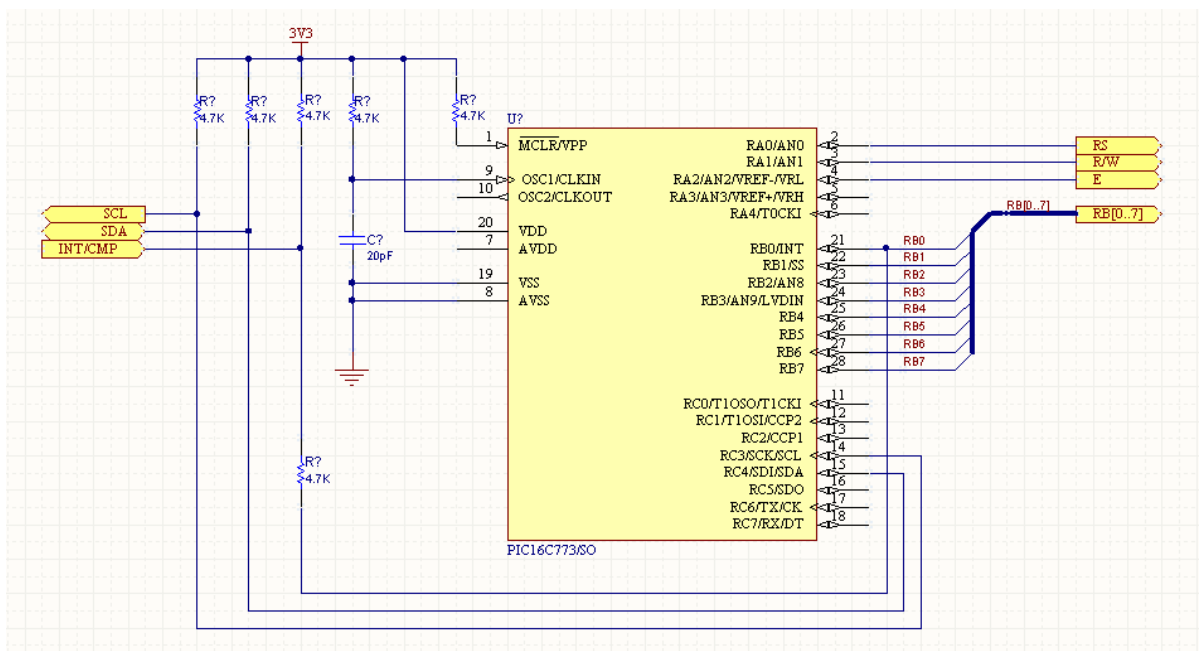

Figure 18. MCU schematic example
6. Draw up the schematic shown in Figure 18 above. When placing the components, press TAB to define the **Designator** and **Comment** (component value) before placing the component.